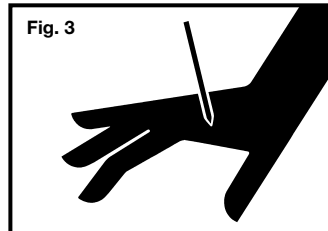
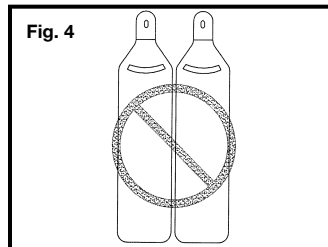

Fig. 3
Fig. 4
**5. Never point tool at yourself or others in work area.** Fig. 3
**6. DANGER Never use oxygen or other bottled gasses.** Explosion may occur. Never use combustible gases or any other reactive gas as a power source for this tool: explosion and serious personal injury could result. Fig. 3 & Fig. 4.